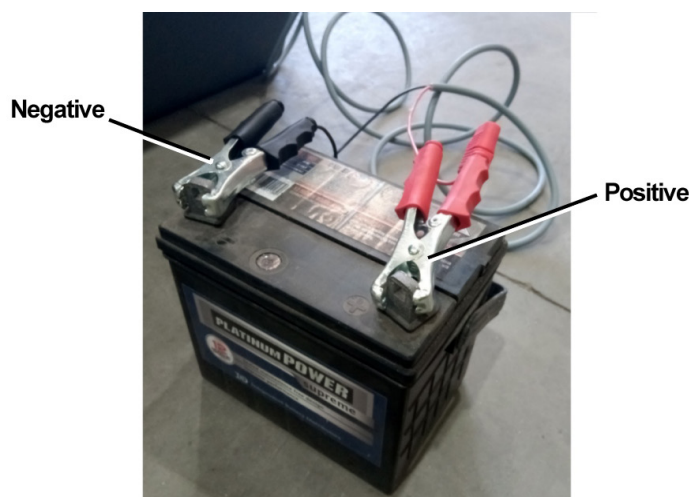

Figure 4 – Battery Connection – Electric Pump
- Uncoil and connect the pump's electrical cable's alligator clips to the power supply, ensuring each clip is connected to the correct terminal – black clip to NEGATIVE, red clip to POSITIVE, refer to Figure 4.